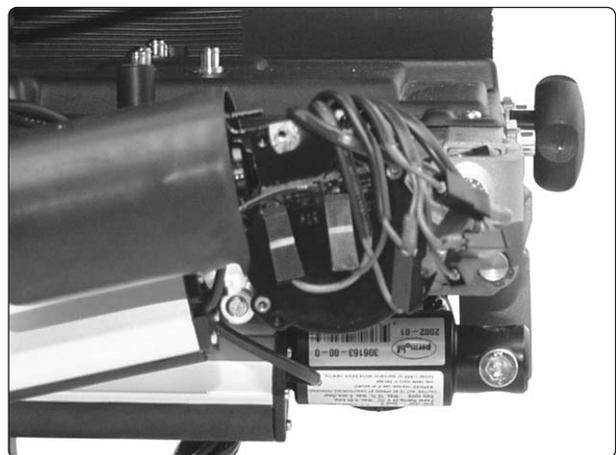

Fig. 87. The actuator's electrical connections.
5. Loosen the two terminals from the actuator, see Fig. 87. Take note of its location for purposes of later remounting.